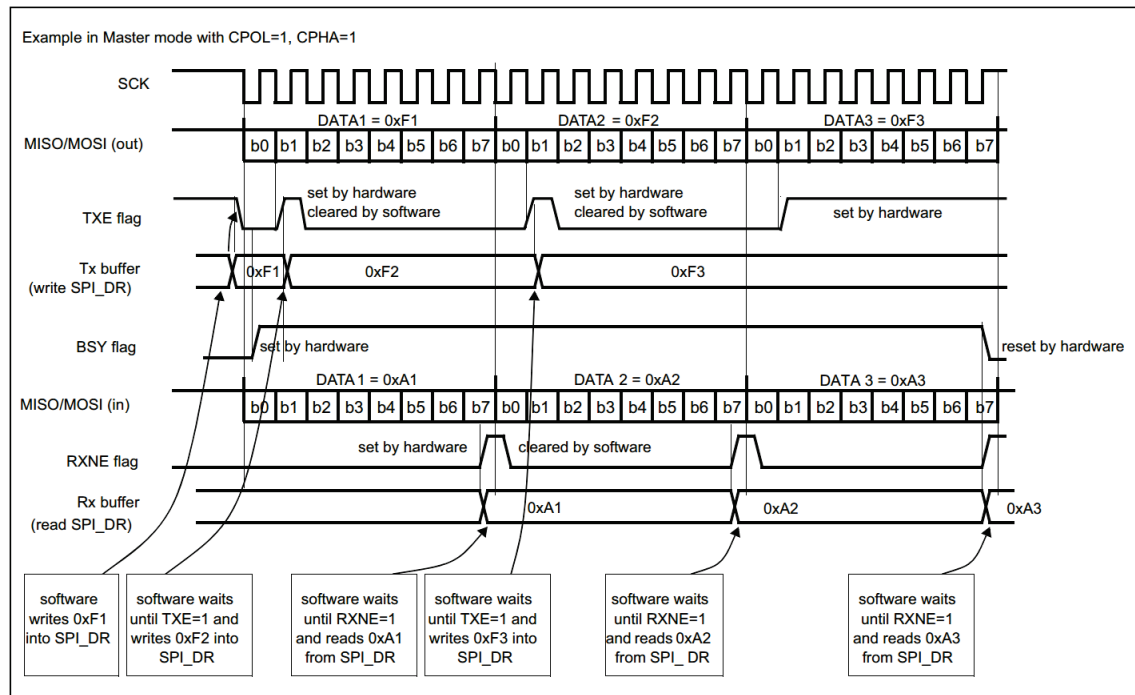
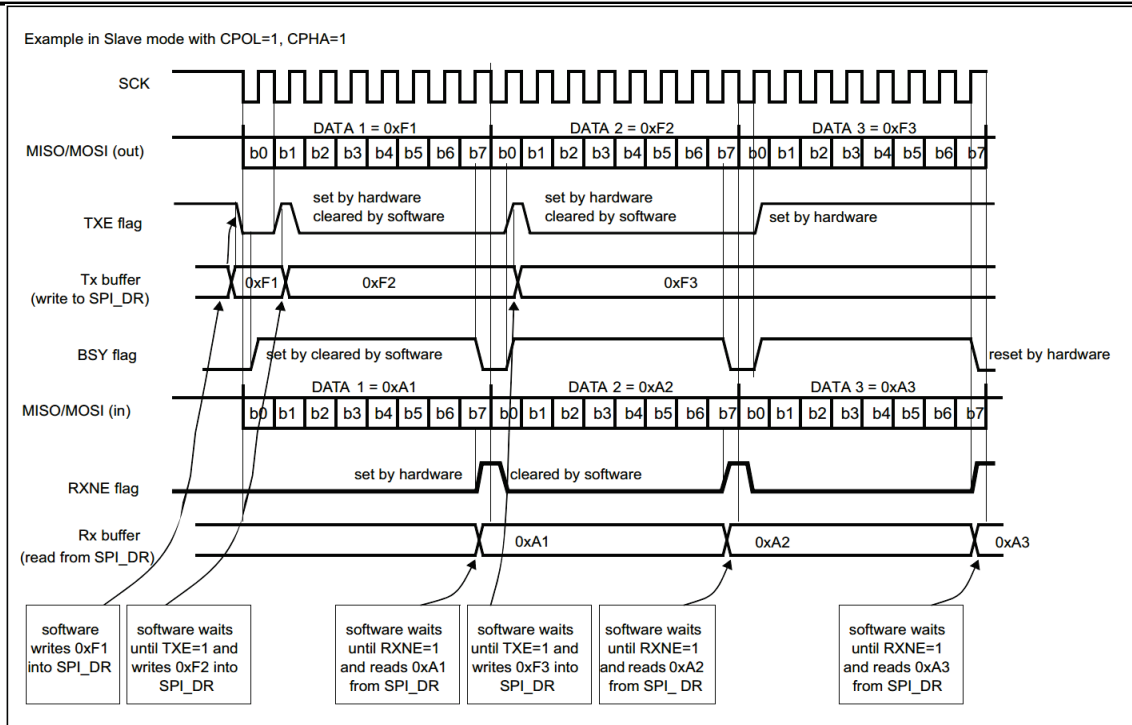

Figure213 Diagram of TXE/RXNE/BSY changes during continuous transmission in main mode, full duplex mode (BIDIMODE=0 and RXONLY=0)
Figure214 Schematic diagram of TXE/RXNE/BSY changes during continuous transmission in slave mode, full duplex mode (BIDIMODE=0 and RXONLY=0)
2. The CPOL and CPHA bits are selected to define the phase relationship between the data transfer and the serial clock (see Figure 213). To ensure proper data transfer, the CPOL and CPHA bits must be configured the same way for both the slave and master devices.
The software must follow the process described below to send and receive data (see Figure213 and Figure214):